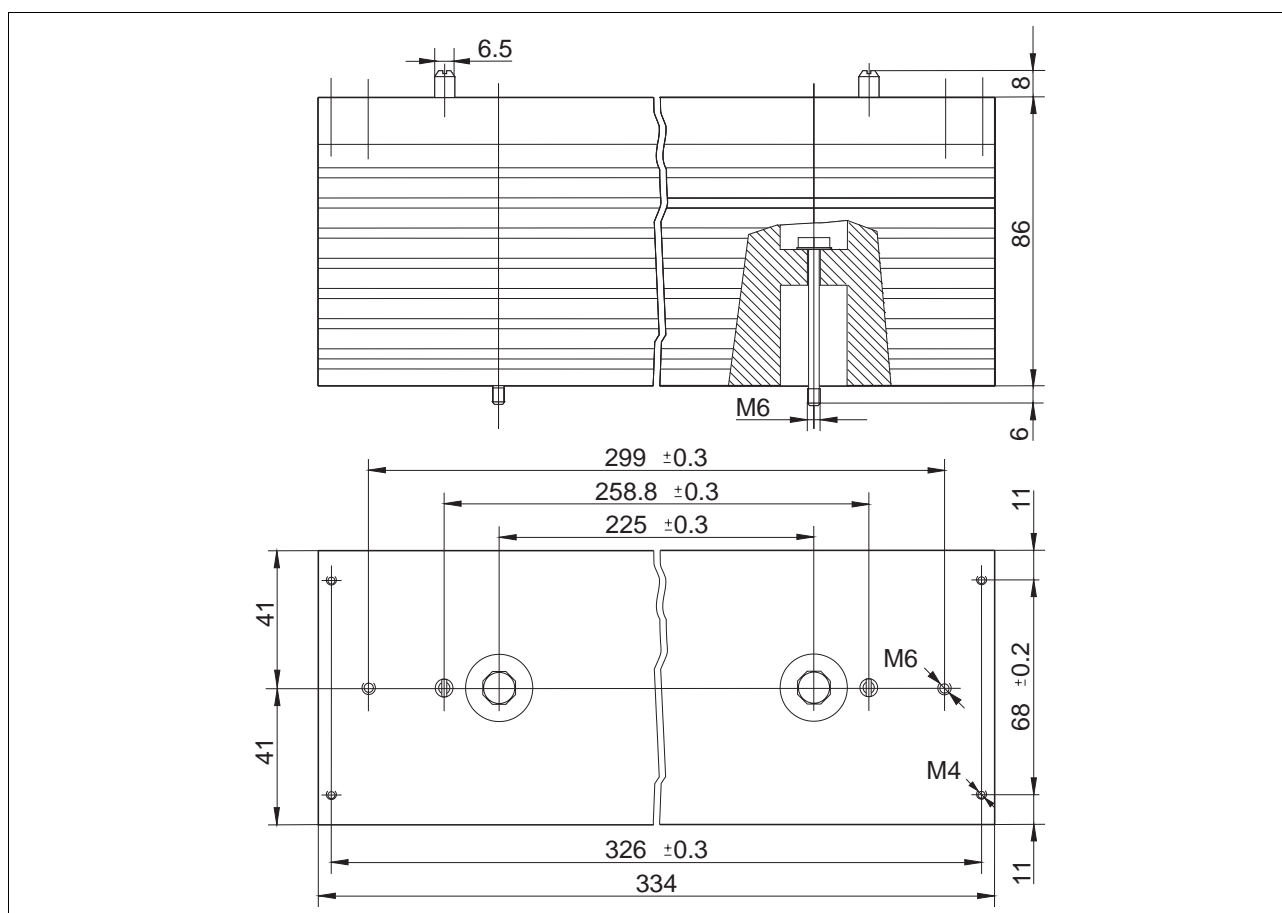

Fig. 6-12 Heat sink dimensions
3. Fasten the heat sink (fig. 6-12) to the mounting panel with two screws.
5. Fasten the heat sink (fig. 6-12) to the mounting panel with two bolts.